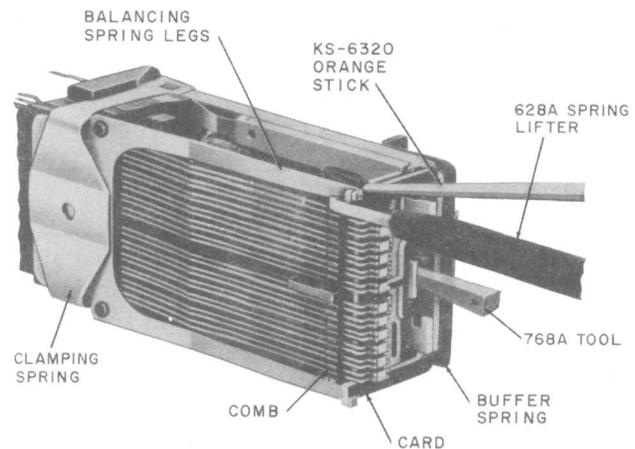

Fig. 3—AL-Type Relay—Disengaging Balancing Spring From Card
- Revise Fig. 3.
3.07 Disengage the balancing spring legs from the card as follows: Block the relay operated, using the 768A blocking tool. Holding the 628A balancing spring lifter in the left hand, insert the spring lifter next to the upper leg of the balancing spring with the end of the lifter just behind the comb. Roll the end of the lifter under this leg of the spring so the spring rests in the groove of the lifter. Then draw the lifter forward to the position shown in Fig. 3. With the right hand,